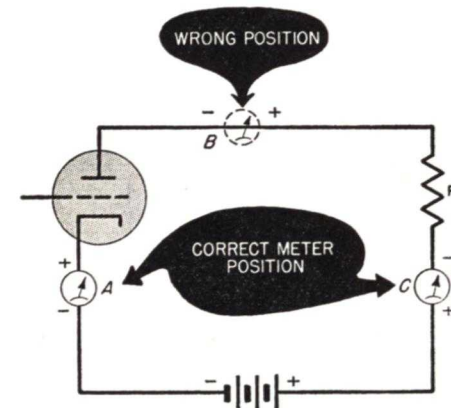
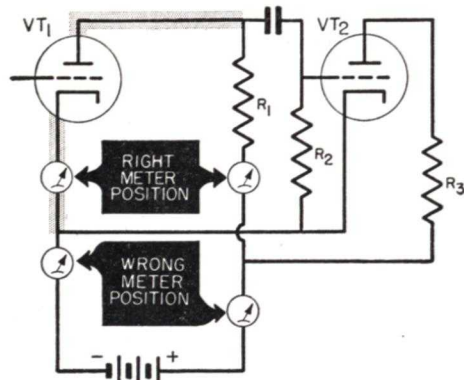

FIG. 11. Be sure to place a current meter in series and use the proper polarity.
FIG. 12. The right meter position is important.
**2. Correct Point.** In the simple circuit shown in Fig. 11, the meter readings at A and C are the same, because the same current flows through
We hasten to point out with reference to Fig. 11 that in transmitters meters are *never* placed between the load and the plate of a tube—for example, in position B in Fig. 11. In that position the meter would be subjected to audio or radio frequency currents that are damaging to the delicate meter mechanism.
as shown in Fig. 12, notice there are two paths for current, one for each tube. If you want to measure the plate current for tube VT1 only, be careful to locate a point where *only* the plate current of this tube is flowing. The cathode lead of tube VT2 may connect directly to the cathode of VT1 and the B+ ends of resistors R1 and R3 may be connected together directly, so positions such as A and C of Fig. 11 may not be usable. Fig. 12 shows the proper places to measure the plate current of VT1. Remember, insert your meter where only the *desired* current is flowing.
or third of the meter scale should be selected if possible. The circuit current is determined by Ohm's Laws,  $I = E/R$ , where R is the total of all the resistance in the circuit. In a circuit like that in Fig. 12, with a fixed supply voltage, the tube plate resistance plus resistor R1 determines the current flow. The current will be about 5 to 10 ma. if this is a voltage amplifier stage using a receiving tube.
The positive meter stud must always be connected in the circuit so that it is toward the positive terminal of the power supply. This is illustrated in Fig. 11. The positive terminal of the